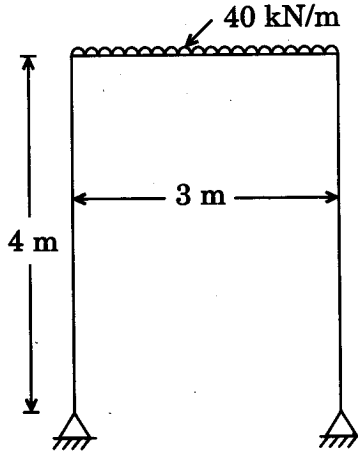

Figure 6
4. Analyse the portal frame shown in Figure 6 using moment distribution method. Draw BMD. Consider EI as constant. Also determine the horizontal thrust at both the hinges. 14